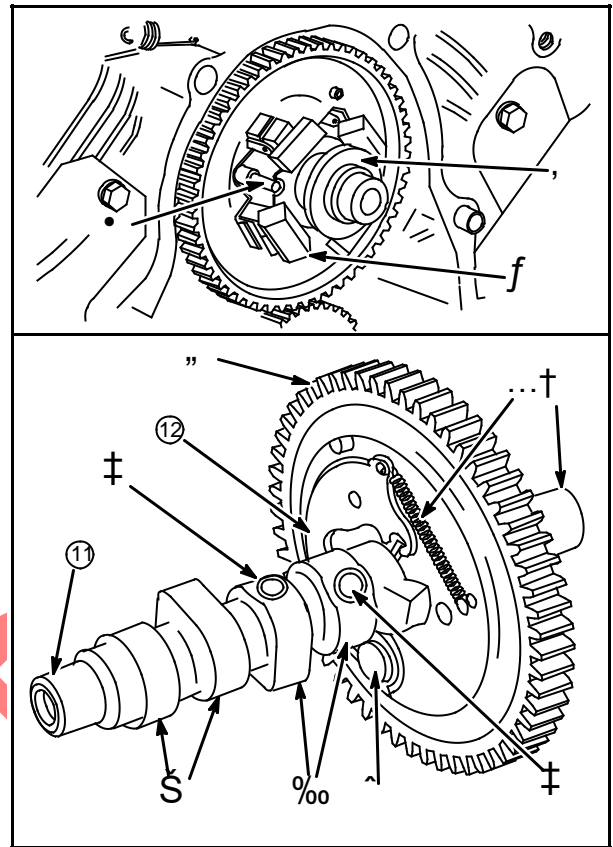

Fig. 4
Inspect gear teeth (4), lobes (9, 10), compression release balls (7) and camshaft bearing journals (6, 11) for wear and nicks, **Fig. 4**.